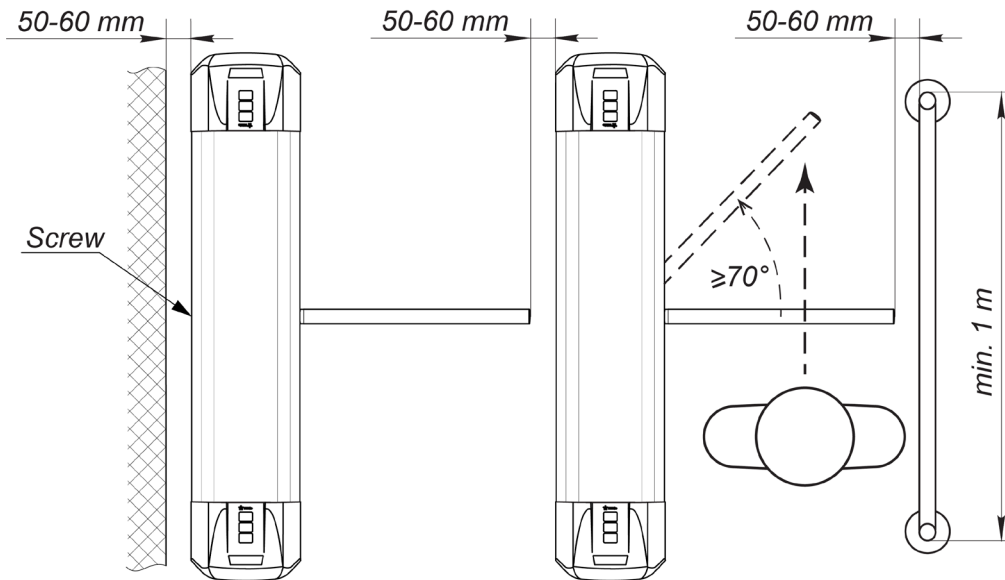

Fig. 11. Recommendations for the passage zone organization
- Insert an SW2.5 Allen key into the hole in the rear part of the turnstile housing and use it to unscrew the set screw (13), which fixes the top cover (3), all the way out (see Fig. 11).
- Carefully lift the top cover (3) upwards by the rear edge and, turning it in the direction of the barrier arms, remove it from the turnstile housing. While removing the top cover, be careful not to damage the CLB located thereunder;
When passing through the turnstile, in case the turnstile is operated by the ACS controller, it is necessary to turn the barrier arms at least 70° to register a passage event. To ensure such an angle of rotation, please follow the recommendations given in Fig. 11 when organizing the passage zone.
When installing the turnstile, it is necessary to leave a gap of at least 50 mm between the turnstile's rear side and the wall to ensure access to the set screw (13) that fixes the top cover (see Figure 11).